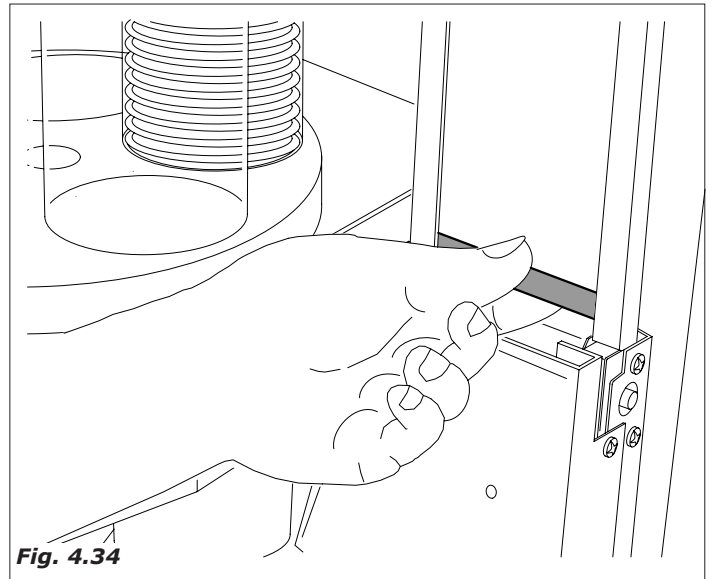

Fig. 4.34
- Remove the metal weight from the spoon dispensing column (Fig. 4.34)